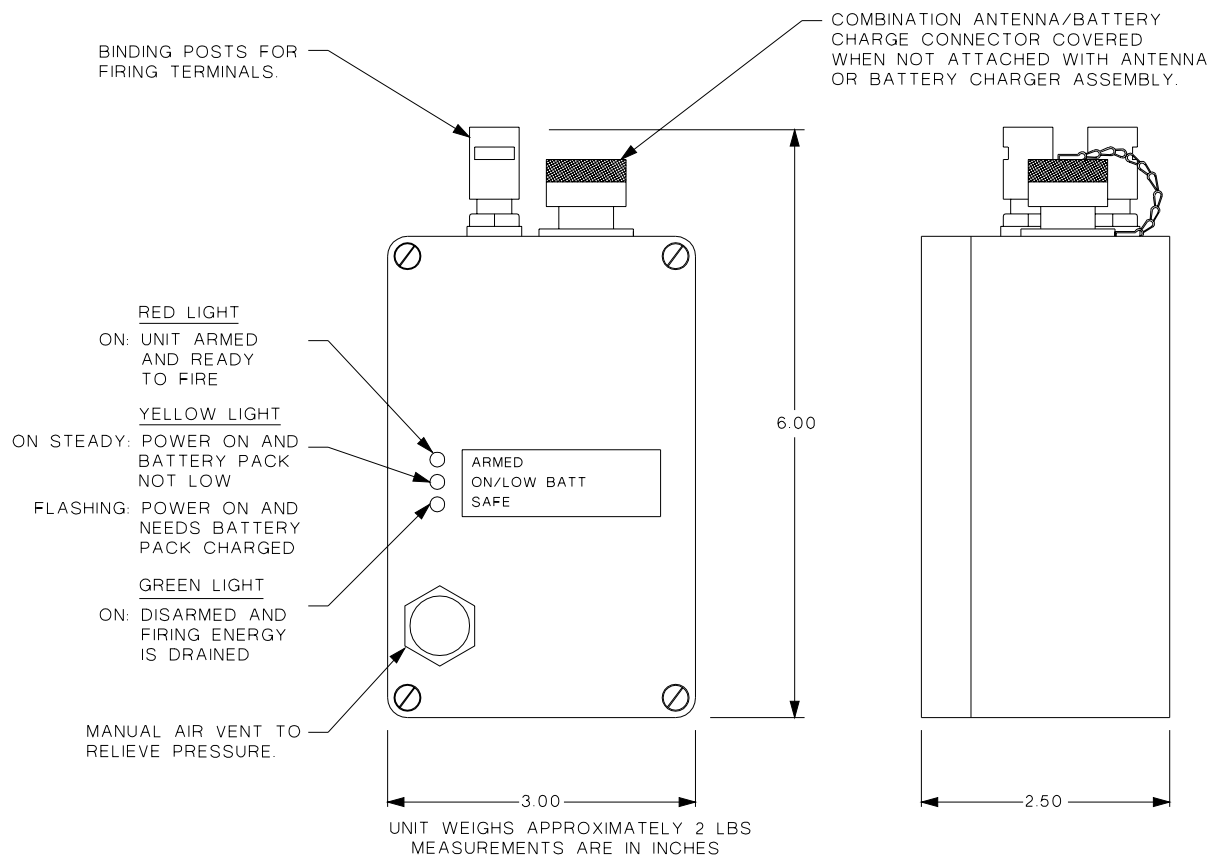

Figure 2-3 Detonator Unit.
2.5.1. Figure 2-3. Provides the physical size, weight, and front panel lights on the Detonator Unit. The unit is sealed at the Manufacturer or repair depot and should not be opened during field activity.